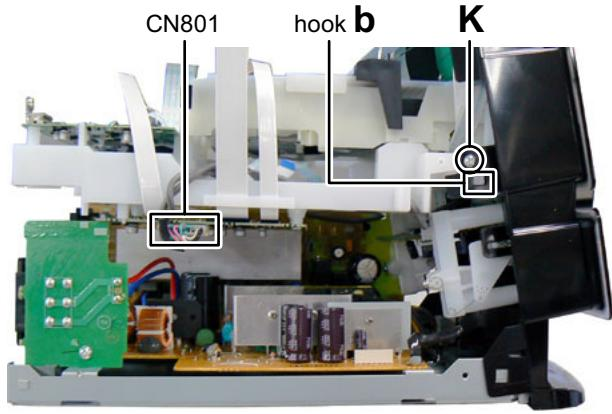

Fig.8
- (2) Disconnect the connector wire from USB board connected to connector CN801 of the Connection board. (See Fig.8)
- (3) Remove the two screws **K** attaching the both side of the DVD mechanism. (See Fig.8)
- (4) Disengaged two hooks **b** engaged both side of the DVD mechanism, (See Fig.8)
When remove the lead screw, do not loss the middle gear. (See Fig.8 and 9)
- (4) Remove the bar spring pressing the shaft. (See Fig.8)